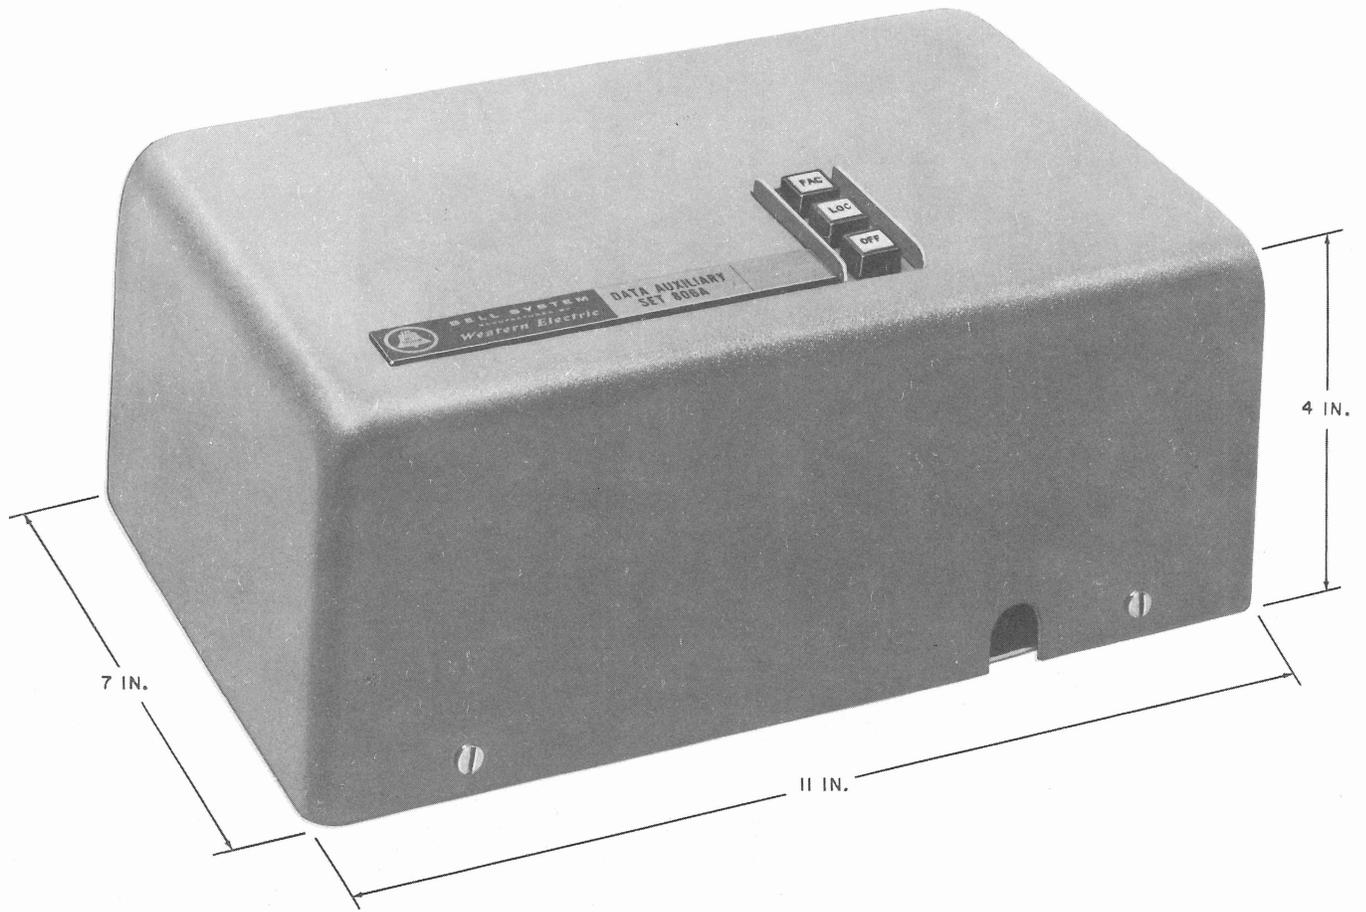
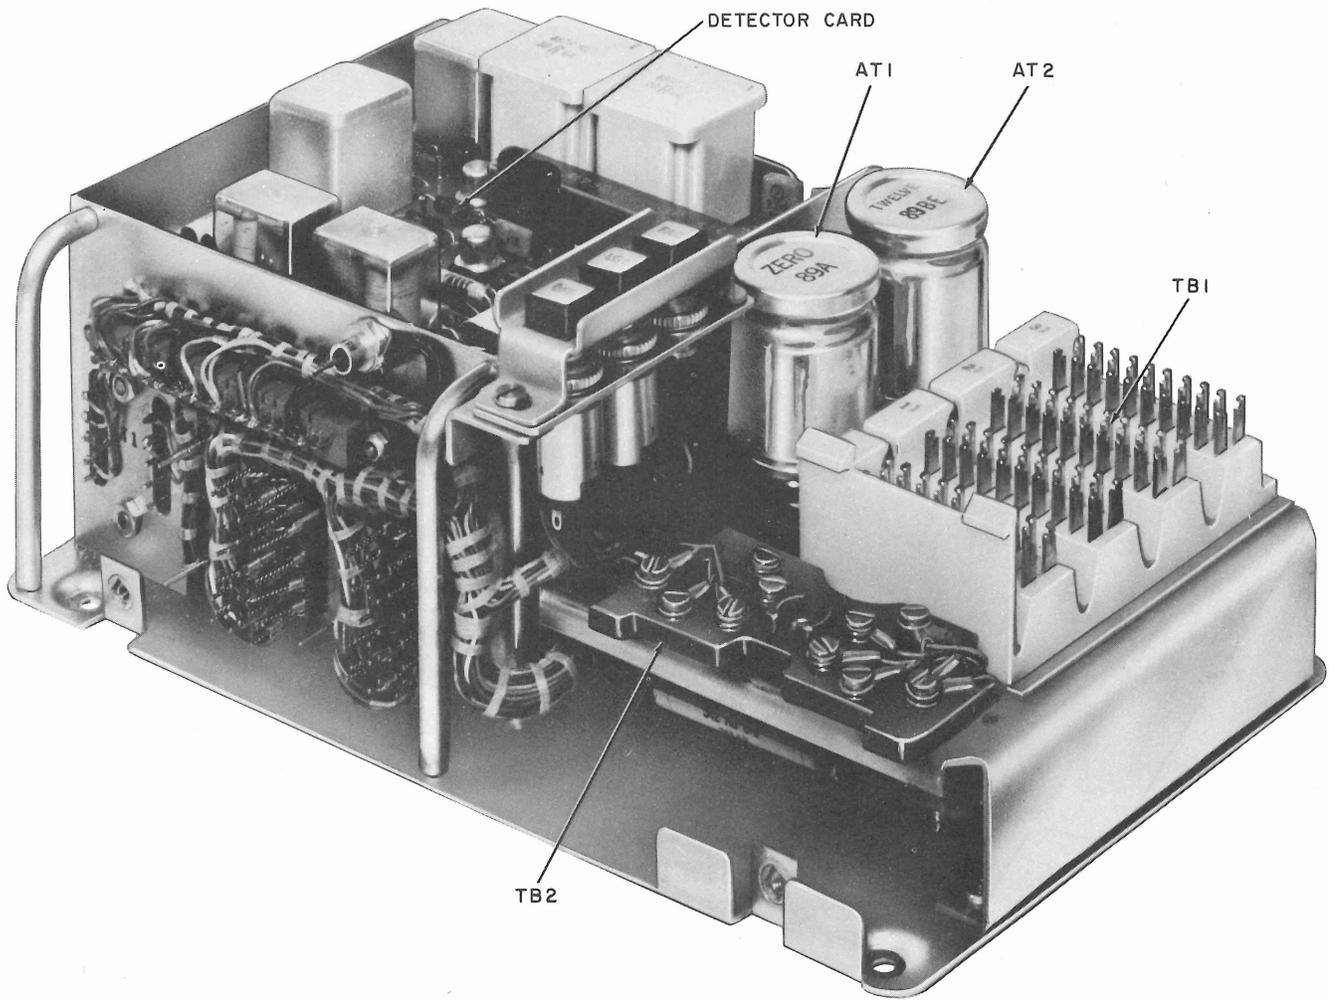

Fig. 2—DAS 806A-Type
Fig. 3—DAS 806A-Type—Cover Removed
2.01 The external appearance (Fig. 2) of all three DASs 806A-type is the same. All three sets are housed in gray aluminum covers, and are designed to be wall mounted. The 806A1 differs internally from the 806A2 and A3 in that it has the detector card (Fig. 3) removed. The 806A1, A2, and A3 are powered by a 2075A transformer from standard 117-volt, 60-Hz ac receptacles.
2.03 The components of the 806A-type are shown in Fig. 3.